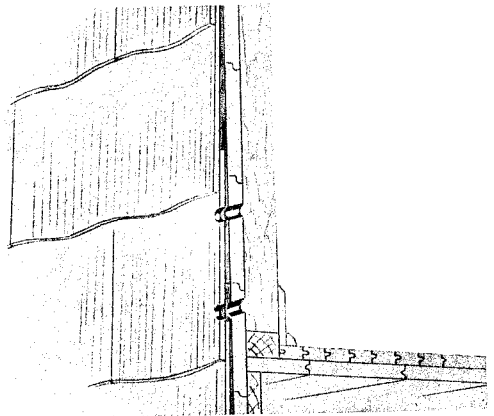

Fig. 4 — Entrance Through Composition Shingles
- Locate hole as shown in Fig. 4 so as to avoid drilling through two shingles.